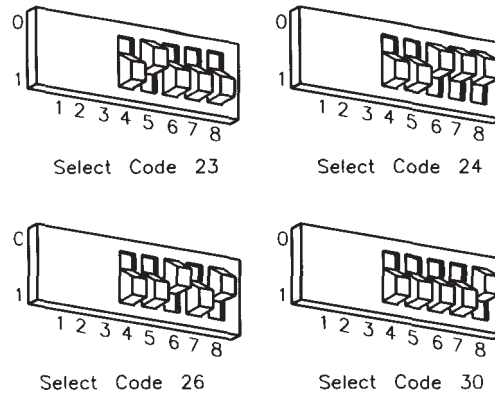

Figure 5-3.
- b. Set these switches to one of the four select codes given in Figure 5-3, unless you have used them elsewhere. Refer to the installation note that came with the interface if you need additional switch settings.